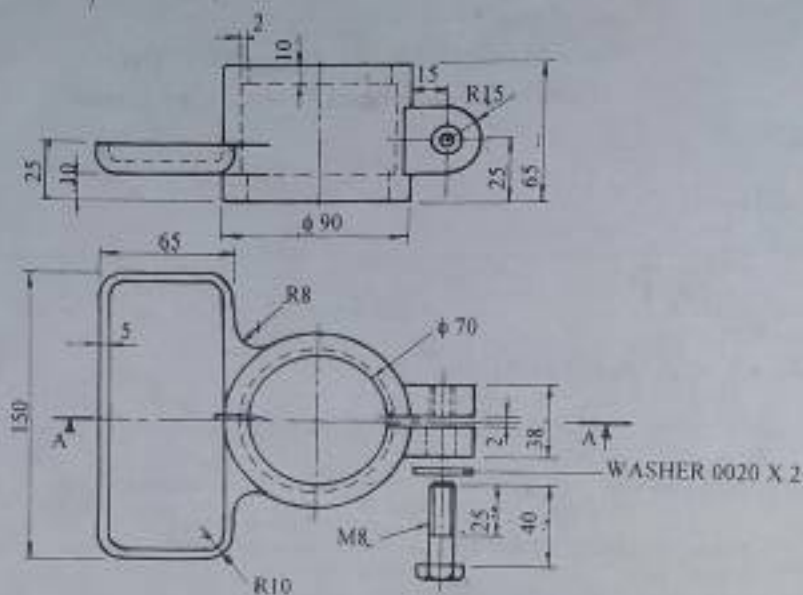

FIG. 1
1. Figure 1 shows detail drawing of a PILLAR DRILL TRAY.